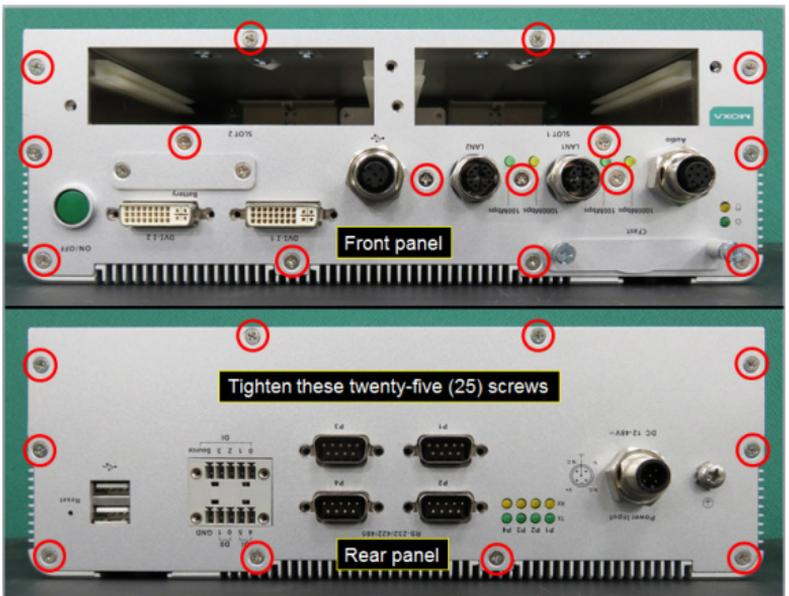

Figure 35
- 4.4.4 Push the front panel back in place, put back the rear panel, and use a Phillips screwdriver to tighten the twenty five (25) screws marked with red circles as shown in Figure 35.